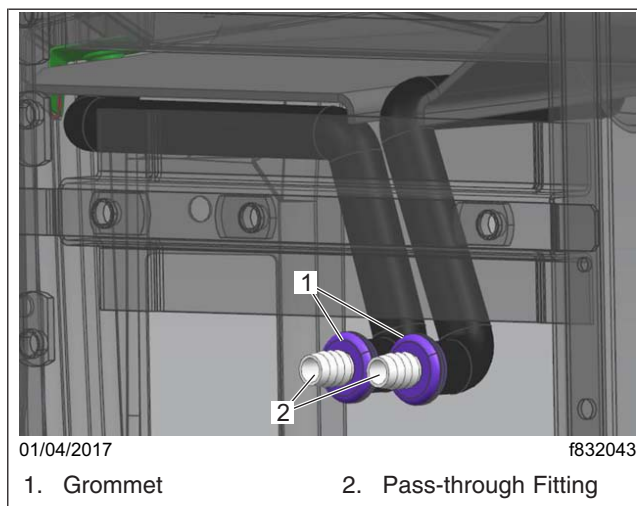

Fig. 5, Pass-Through Fittings and Grommets
13. Install the pass-through fittings in both grommets. See Fig. 5.